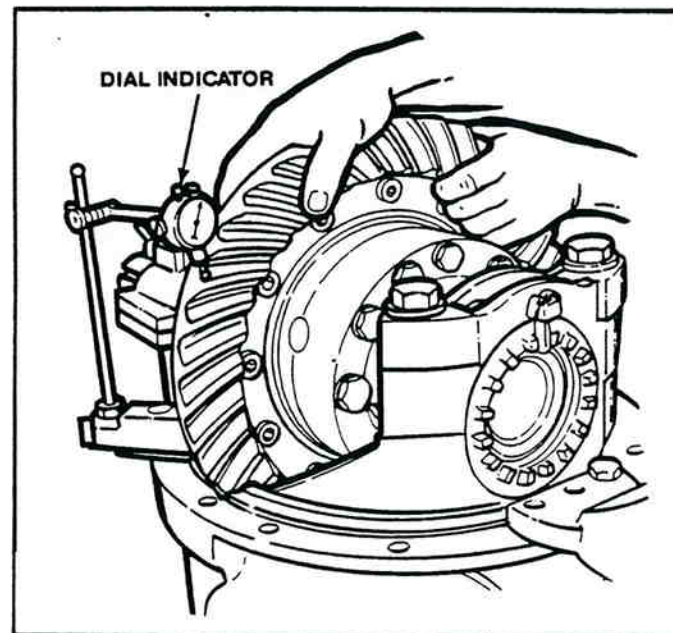

Figure 2-10. Measuring Backlash.
**NOTE:** Before starting work on the differential carrier, inspect the hypoid gear set for damage. If the inspection shows no damage, the same gear set can be used again. Using a dial indicator as shown in Figure 2-10, measure the backlash of the gear set and make a note of it. This measurement will be needed when the set is reinstalled.